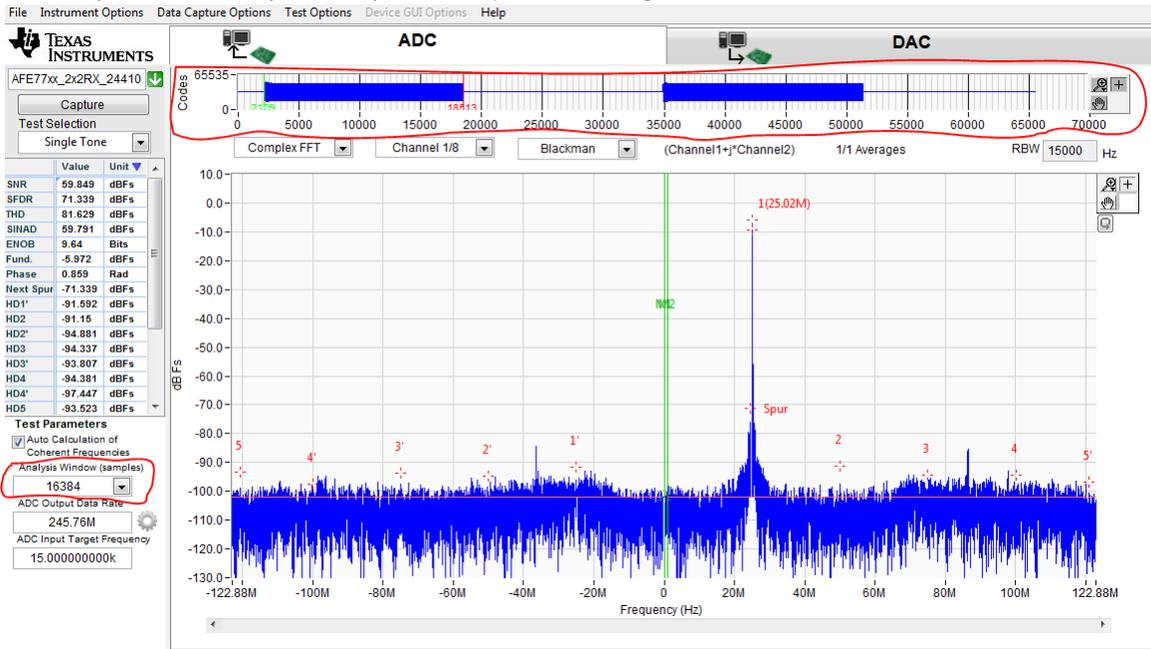

Figure 4-4. Spectrum of Receiver ADC in TDD Mode
3. In the Codes view (circled in red in Figure 4-4), move the green marker to the start of the data pattern during the time RX TDD signal is ON.